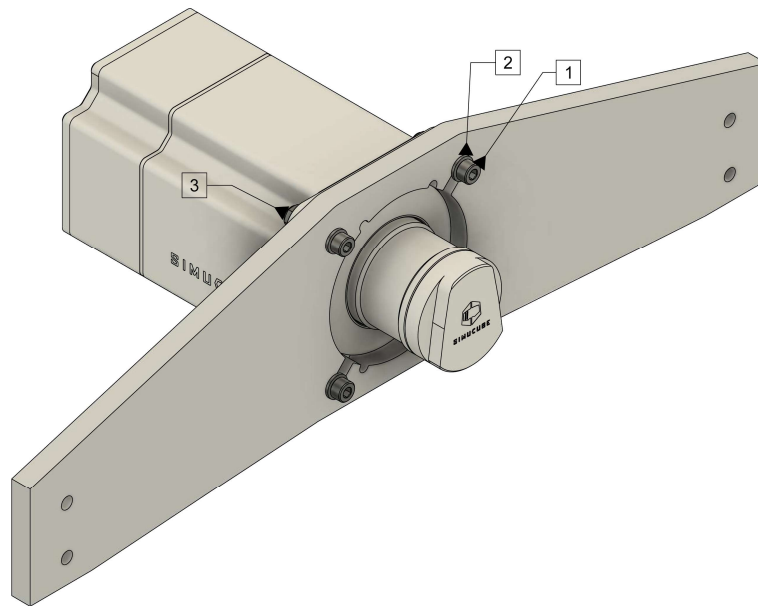

Figure 4 Mounting Simucube 2 on a simulator rig front mount bracket.
Simucube 2 can be mounted by utilizing a front mount bracket found on many simulator rigs as shown in Figure 4.
Mount Simucube 2 as shown in Figure 4. Sport and Pro models are mounted with 30mm M8 bolts with 1.25mm thread pitch (1) and M8 flat washers (2). Simucube 2 Ultimate is mounted through-the motor flange with bolts (1), washers (2) and a M8 locking nuts (3).